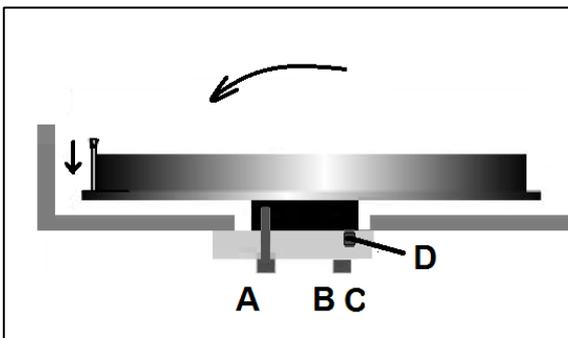

Figure 8-7: Blade Tracking Adjustment
- Use set screw (D) to adjust the tilt of the flywheel (Fig 8-7).